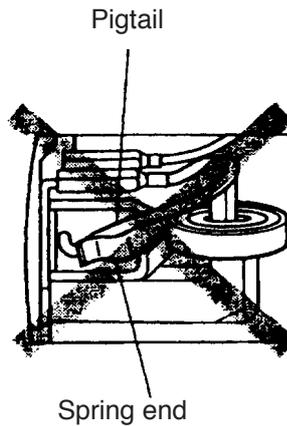

Fig. 11
(5) Check that the spring end does not hold the pigtail when mounting the carbon brush. Do not catch the pigtail in the tail cover when mounting the tail cover. (See Fig. 11.)